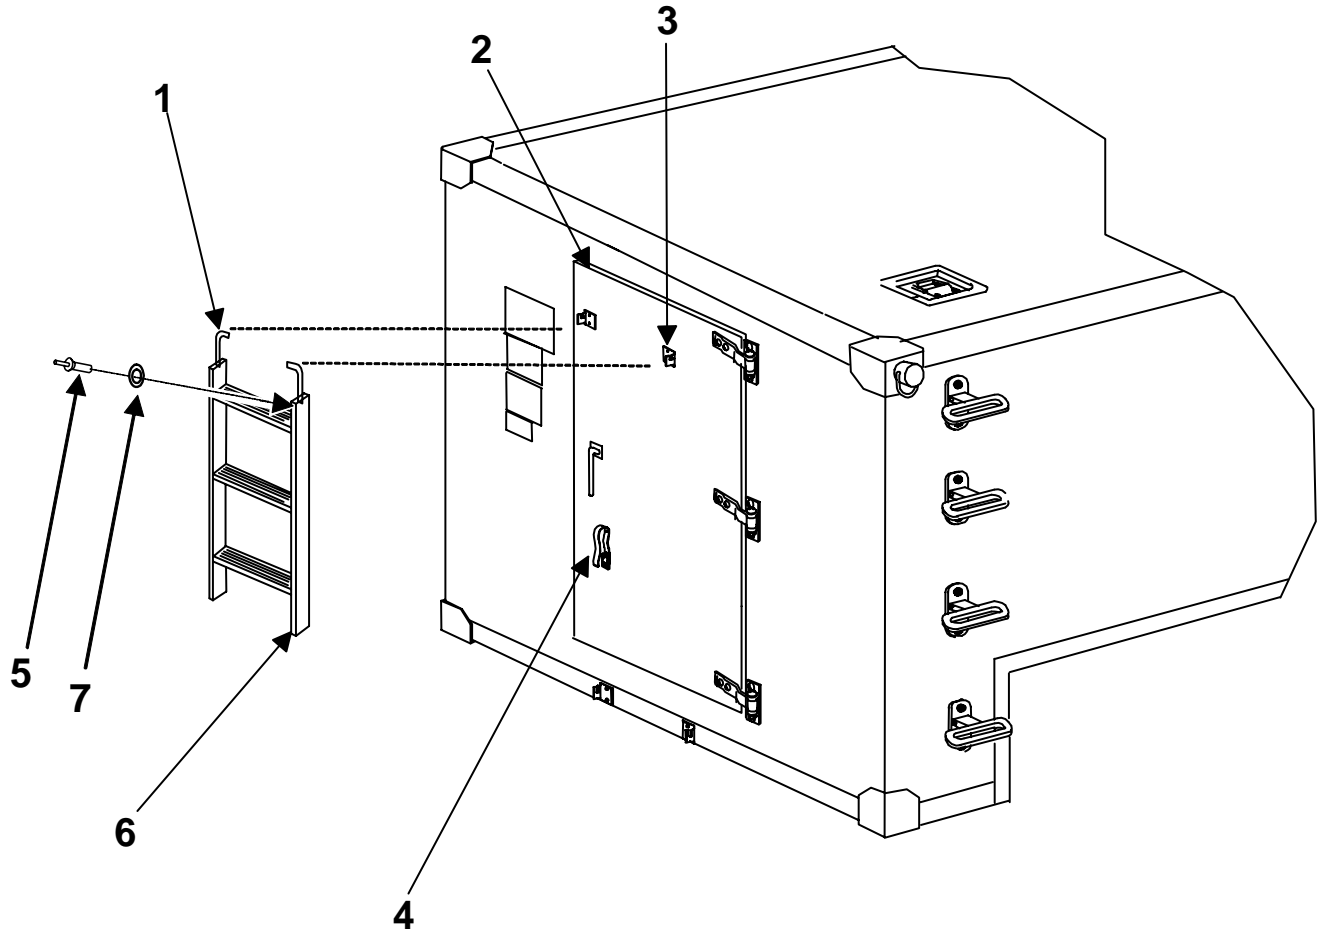

Figure 1. Ladder Assembly.
1. Using a drill with a #11 drill bit, carefully drill out two rivets (figure 1, item 5) securing fitting (figure 1, item 1) to shelter and remove fitting. Refer to WP 0033 00 for rivet replacement.
2. Position new fitting (figure 1, item 1) on ladder (figure 1, item 6).
3. Align holes and secure fitting (figure 1, item 10) in position with two rivets (figure 1, item 5), and two flat washers (figure 1, item 7).
1. Place new ladder (figure 1, item 6) on stowage brackets (figure 1, item 3).
2. Secure ladder (figure 1, item 6) with retaining strap (figure 1, item 4).